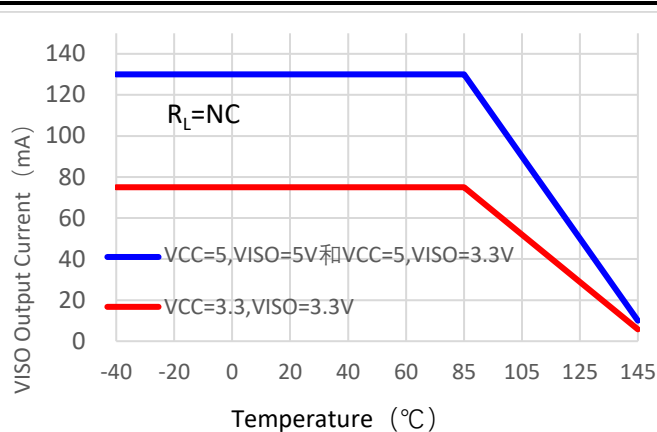
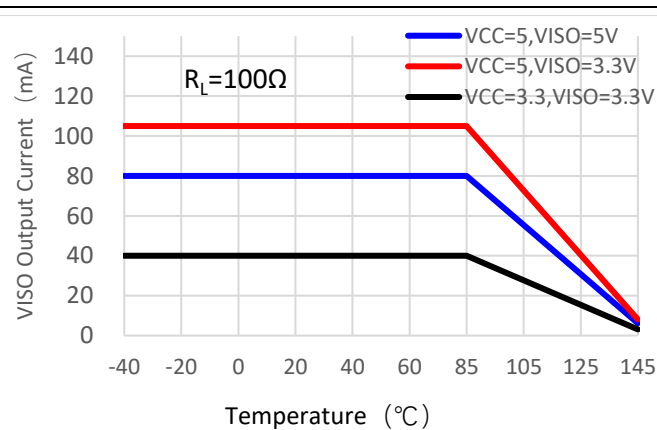
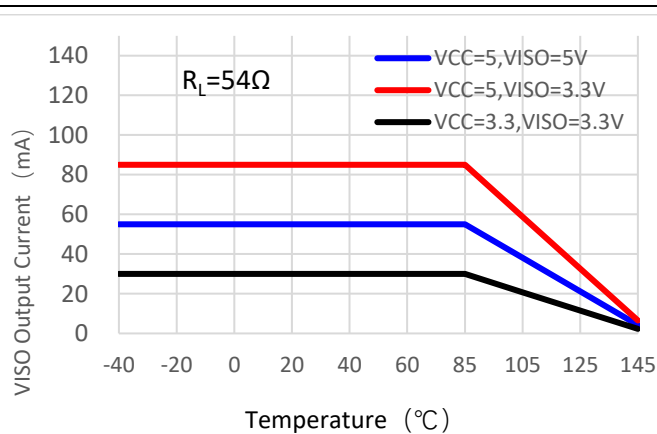

Figure 7-14.
Figure 7-16.
Figure 7-18.
1. DE = V CC , RE = 0V, DI = 0V or V CC ; The available output current from V ISO will be reduced when T A > 85°C, see Figure7-14, Figure7-16, Figure7-18, the maximum output current of V ISO vs. temperature.